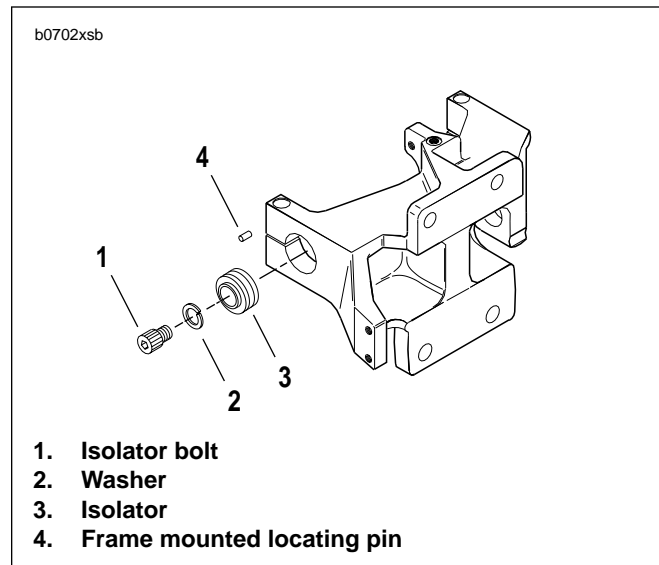

Figure 2. Isolator Assembly Before Installing Kit
18. See Figure 2. Remove isolators bolts (1) and washers (2) on each side.
19. Slowly raise floor hoist until rubber isolators (3) can be removed. Frame will rise while engine and swingarm remain secured to lift by crating strap.